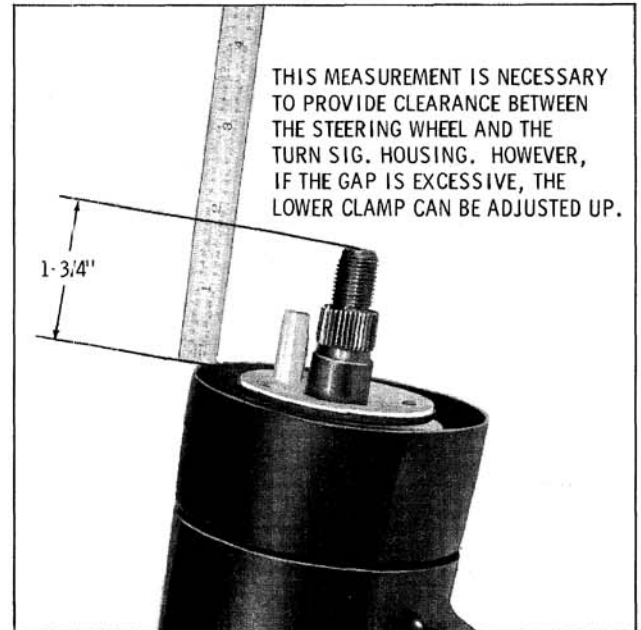

Fig. 8-92 Checking Steering Shaft Height
4. Check steering shaft height (Fig. 8-92) and adjust lower clamp if necessary.
4. Check turn signal housing to steering shaft clearance. (Fig. 8-92) Adjust steering shaft clamp if necessary. Torque clamp bolt to 70 in. lbs.
- Adjust steering shaft clamp to obtain dimension in Fig. 8-92. Torque clamp bolt to 70 in. lbs.